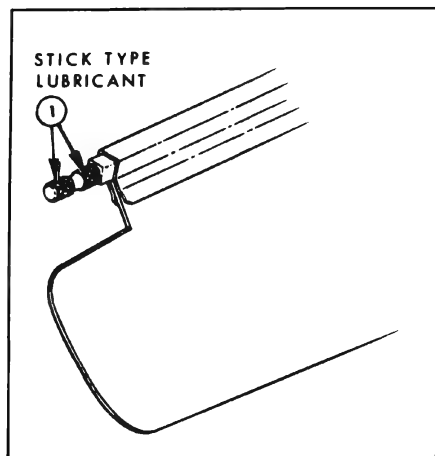

Figure 1-21—Sunshade Rod
13. Sunshade Rod. Remove sunshade assembly from support and apply a thin film of stick-type lubricant to end of sunshade rod (Figure 1-21). Wipe off all excess lubricant.